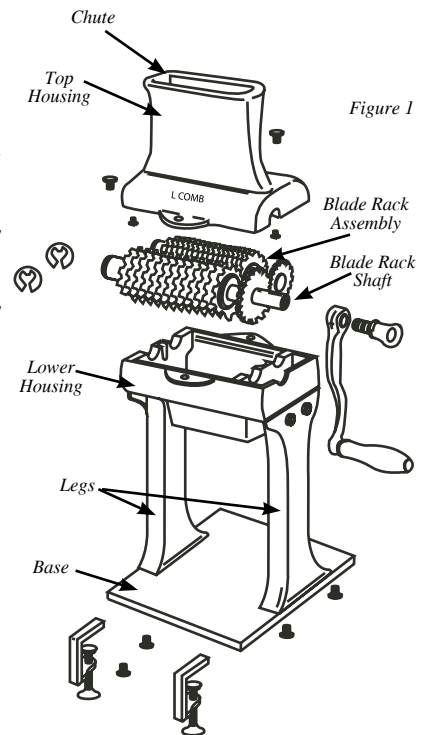

Figure 2
7. Insert the **Left Comb and Right Comb** into the **Top Housing**. *Figure 2*